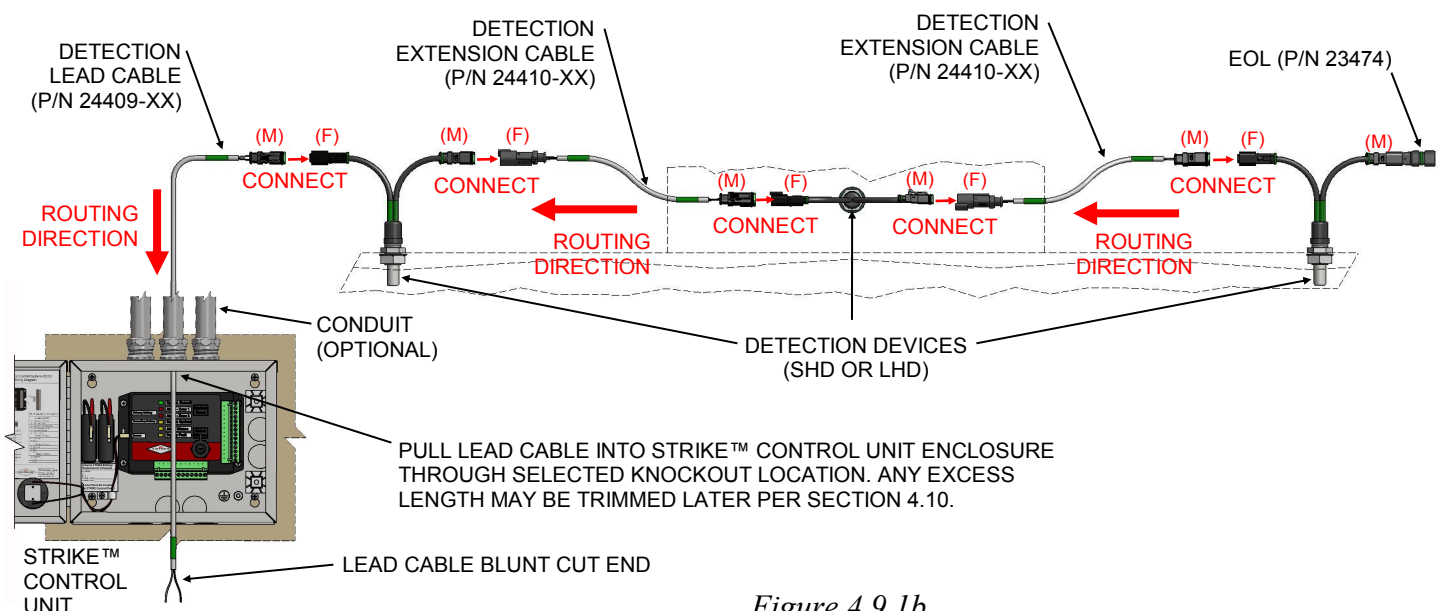

Figure 4.9.1b
For multiple detection device (LHD or SHD) (See Figure 4.9.1b):
1. If multiple detection devices (LHD or SHD) are installed downstream of the Manual Pull Station, route Detection Extension Cables (P/N 24410-XX) between each detection device as shown on the previous page (See Figure 4.9.1b).
2. At a single detection device, or at the first detection device located closest to the Control Unit/Manual Pull Station, route the female connector end (F) of a Manual Pull Extension Cable (P/N 24413-XX) from that detection device to and into the Manual Pull Station electrical box, leaving the male extension cable connector end (M) at the starting location. Only about 5" of the electrical connector shall be pulled into the electrical box as shown. Any excess length in the extension cable must be stored away from the devices. If conduit is used, it must be 3/4" conduit. **Do not cut, pinch, crush, or chafe any electrical wiring or connectors during installation.**
3. Connect the male extension cable connector (M) to the female detection device connector (F).
4. Connect the male pull station connector (M) to the female ext. cable connector (F).
6. Connect the female Pull Station connector (F) to the male lead cable connector (M).
7. Tuck the electrical connections into the electrical box as shown and reinstall the Manual Pull Station using the (2) provided #8 cap screws. **Do not pinch any electrical wiring or connectors during installation.**